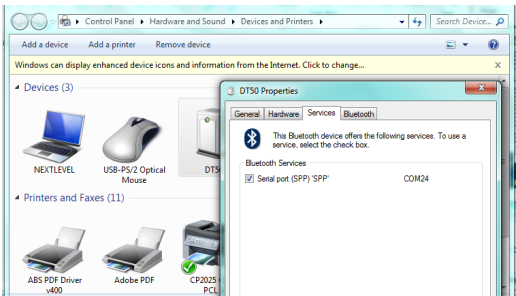

Figure 3
After the DT50M has been added to your PC available Devices and Printers list you can right click on the DT50M properties. This displays the SPP service now available with your DT50M and lists the outgoing COM port which has been assigned to the DT50M. This is shown in Figure 3. Note: Windows will setup (2) Bluetooth COM ports for you; one is for incoming connections and one is for outgoing connections. You will utilize the outgoing connections port later in this guide.